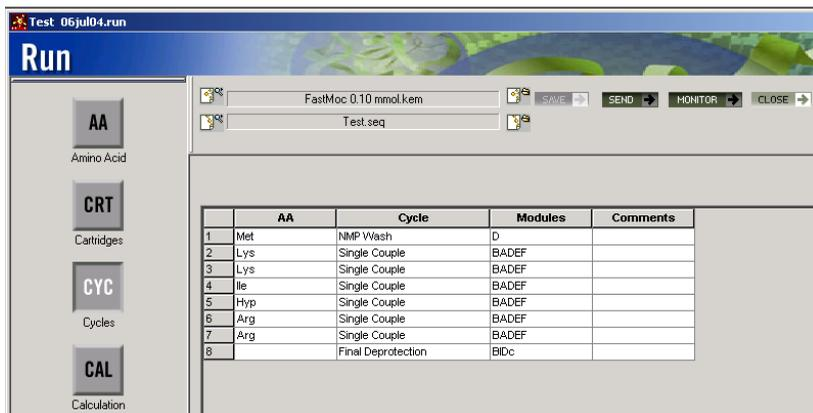

Figure 6-6 Cycle Selection Panel
1. Click **Cycles** in the Run view selection panel (Figure 6-6) of the Run Window.